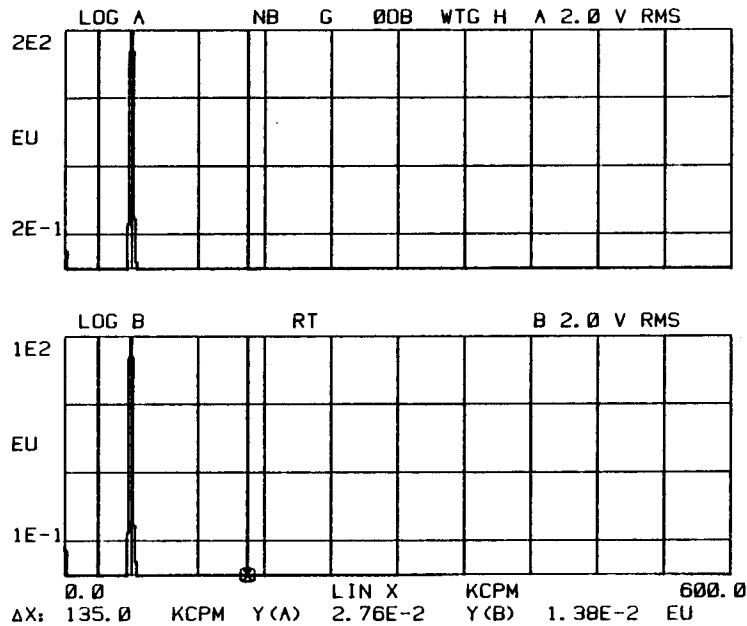

Figure 4-7. Cursor Control ΔX and SET REF Sample Display
- j. Press the CURSOR group ADRS touch control. On the PARAMETERS group numbered keyboard, press 110 and then press ENT. Compare the display with Figure 4-7.